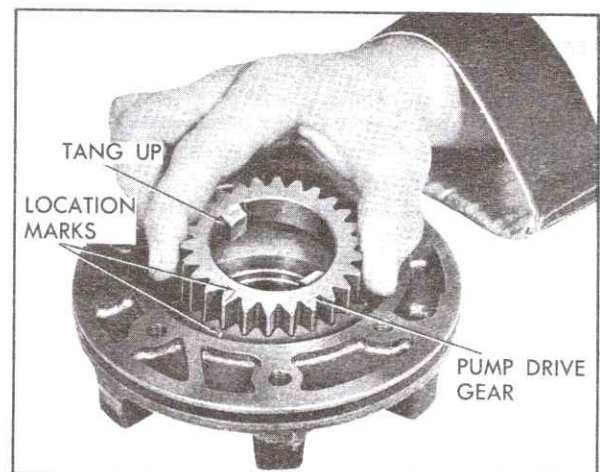

Fig. 7-195 Installing Pump Drive Gear
d. Install drive gear into pump body with drive tangs up, Fig. 7-195.